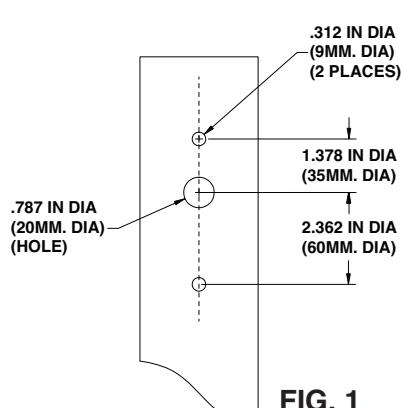
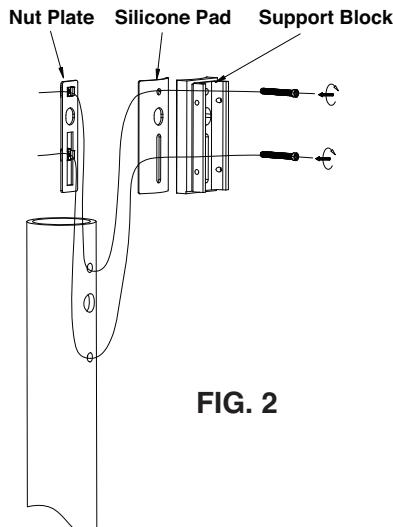

FIG. 1
FIG. 2
The fixture can be mounted to either a round or square pole with an adapter mounting plate. The mounting plate has a slot pattern that can cover many existing hole patterns. If there is no existing hole pattern or the holes are outside of the slot range, drill holes according to the pattern in **FIG. 1**. Install the mounting plate in accordance with **FIG. 2**.
1. Tighten the nut plate and adapter on the pole (see **FIG. 2**).